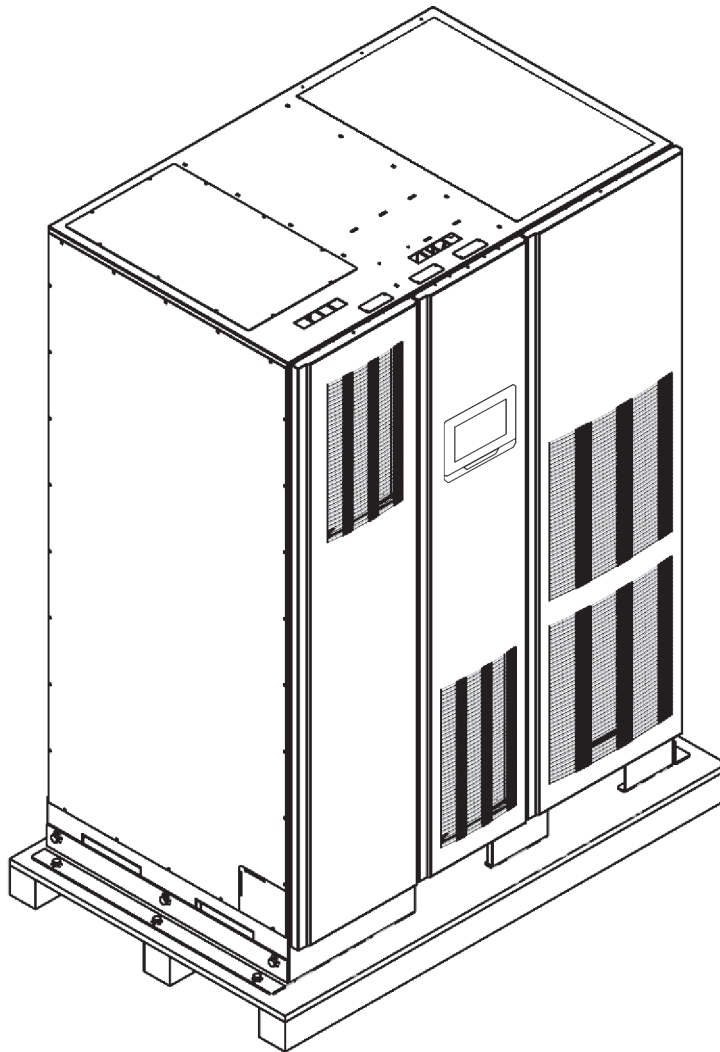

Figure 3-7. Eaton 9395P UPS 250 kVA - 300 kVA cabinet as shipped on pallet
The UPS cabinet is palleted separately for shipping. The cabinet is shipped bolted to a wooden pallet and protected with outer protective packaging material (see Figure 3-7.)
2. Use a forklift or pallet jack to move the packaged cabinet to the installation site, or as close as possible, before unpacking. Insert the forklift or pallet jack forks from the right side of the cabinet, between the supports on the bottom of the pallet. See Figure 3-7 on page 34 for the location of the UPS center of gravity.